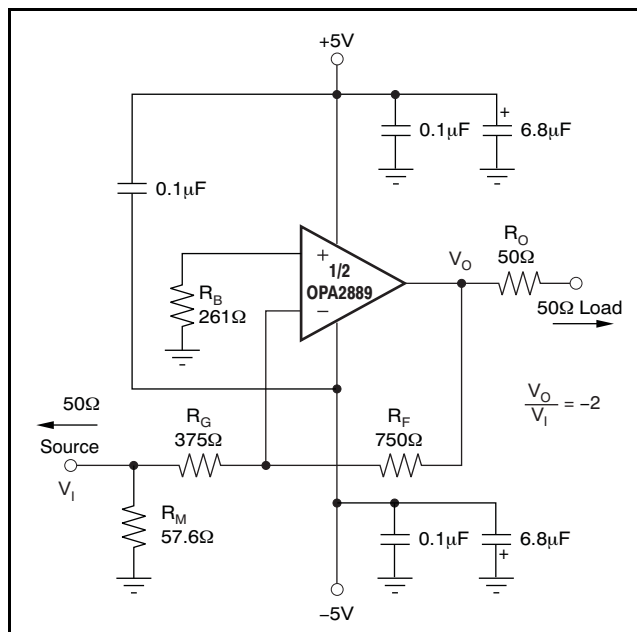

Figure 60. Gain of -2V/V Example Circuit
The OPA2889 is a general-purpose, wideband, voltage-feedback op amp; therefore, all of the familiar op amp application circuits are available to the designer. Inverting operation is one of the more common requirements and offers several performance benefits. See Figure 60 for a typical inverting configuration where the I/O impedances and signal gain from Figure 50 are retained in an inverting circuit configuration.
In the inverting configuration, three key design considerations must be noted. The first is that the gain resistor ( $R_G$ ) becomes part of the signal channel input impedance. If input impedance matching is desired (which is beneficial whenever the signal is coupled through a cable, twisted-pair, long PCB trace, or other transmission line conductor),  $R_G$  may be set equal to the required termination value and  $R_F$  adjusted to give the desired gain. This consideration is the simplest approach and results in optimum bandwidth and noise performance. However, at low inverting gains, the resultant feedback resistor value can present a significant load to the amplifier output. For an inverting gain of -2V/V, setting  $R_G$  to 50Ω for input matching eliminates the need for  $R_M$  but requires a 100Ω feedback resistor. This approach has the interesting advantage that the noise gain becomes equal to 2V/V for a 50Ω source impedance—the same as the noninverting circuits considered in Figure 60. The amplifier output, however, now sees the 100Ω feedback resistor in parallel with the external load. In general, the feedback resistor should be limited to the 200Ω to 1.5kΩ range. In this case, it is preferable to increase both the  $R_F$  and  $R_G$  values (see Figure 60), and then achieve the input matching impedance with a third resistor ( $R_M$ ) to ground. The total input impedance becomes the parallel combination of  $R_G$  and  $R_M$ .
The second major consideration, touched on in the previous paragraph, is that the signal source impedance becomes part of the noise gain equation and influences the bandwidth. For the example in Figure 60, the  $R_M$  value combined in parallel with the external 50Ω source impedance yields an effective driving impedance of  $50\Omega \parallel 57.6\Omega = 26.7\Omega$ . This impedance is added in series with  $R_G$  for calculating the noise gain (NG). The resulting NG is 2.86V/V for Figure 60, as opposed to only 2V/V if  $R_M$  could be eliminated as discussed above. Therefore, the bandwidth is slightly lower for the gain of -2V/V circuit of Figure 60 than for the gain of +2V/V circuit of Figure 50.
The third important consideration in inverting amplifier design is setting the bias current cancellation resistor on the noninverting input ( $R_B$ ). If this resistor is set equal to the total dc resistance looking out of the inverting node, the output dc error, as a result of the input bias currents, is reduced to (Input Offset Current)  $\times R_F$ . If the 50Ω source impedance is dc-coupled in Figure 60, the total resistance to ground on the inverting input is 402Ω.
previously recommend maximum value of  $400\Omega$ . Keeping both  $(R_F \parallel R_G)$  and the noninverting input source impedance less than  $400\Omega$  satisfies both noise and frequency response flatness considerations. Because the resistor-induced noise is relatively negligible, additional capacitive decoupling across the bias current cancellation resistor ( $R_B$ ) for the inverting op amp configuration of Figure 60 is not required.